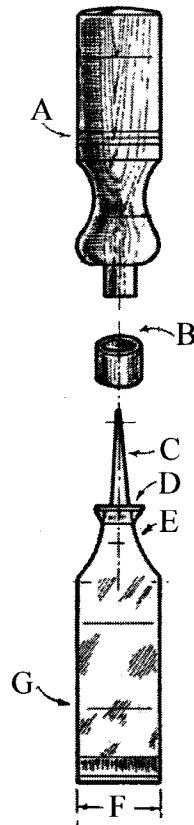

Figure 1
3. Figure 1 below shows a hand tool commonly used in the carpentry workshop and on the job site.